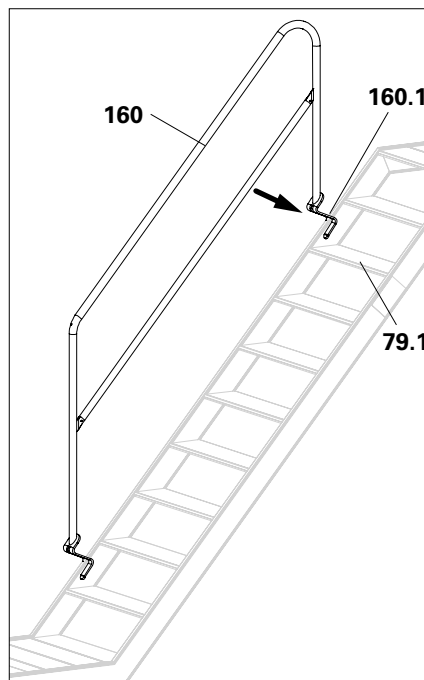

Fig. A8.10a
1. Attach the Stair Guardrail UAG to the stair rail using the mounting rings (**160.1**). (Fig. A8.10a)